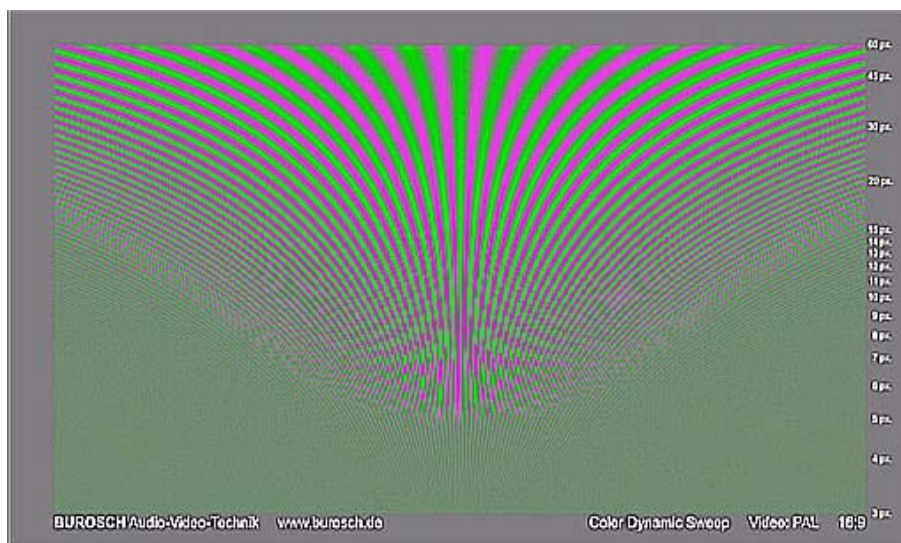

fig. 3: over-focussing – focus control adjusted too high
- white stripes in colored sweep – image over-focussed, probably the focus control is adjusted too high. Probably it's also shown as black outline on the capture (figure 3)